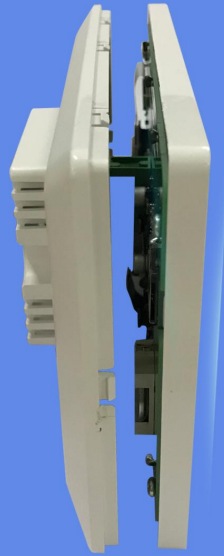

fig.3
2. Open the front and rear Cases ( fig.3 )